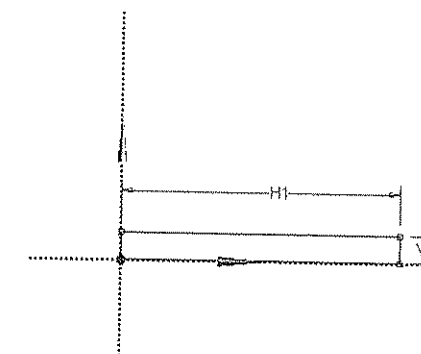

Figure 10-14 Rectangle created on the XY plane
- Invoke the **Sketching** mode. Next, create a rectangle and then dimension it, as shown in Figure 10-14. For dimensions of the model, refer to Figure 10-13.